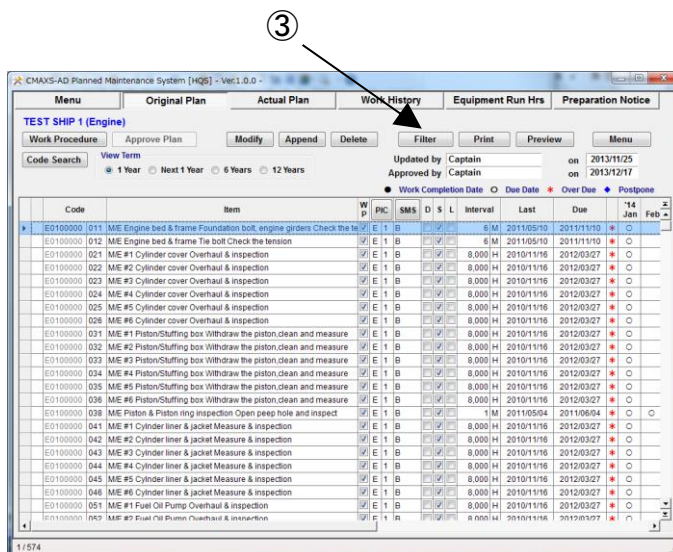

Fig.11-11 Original Plan screen
(1) Select the 【Original Plan】 tab for 【Menu】
(2) 【Original Plan screen】 (Figure 11-11) is displayed.